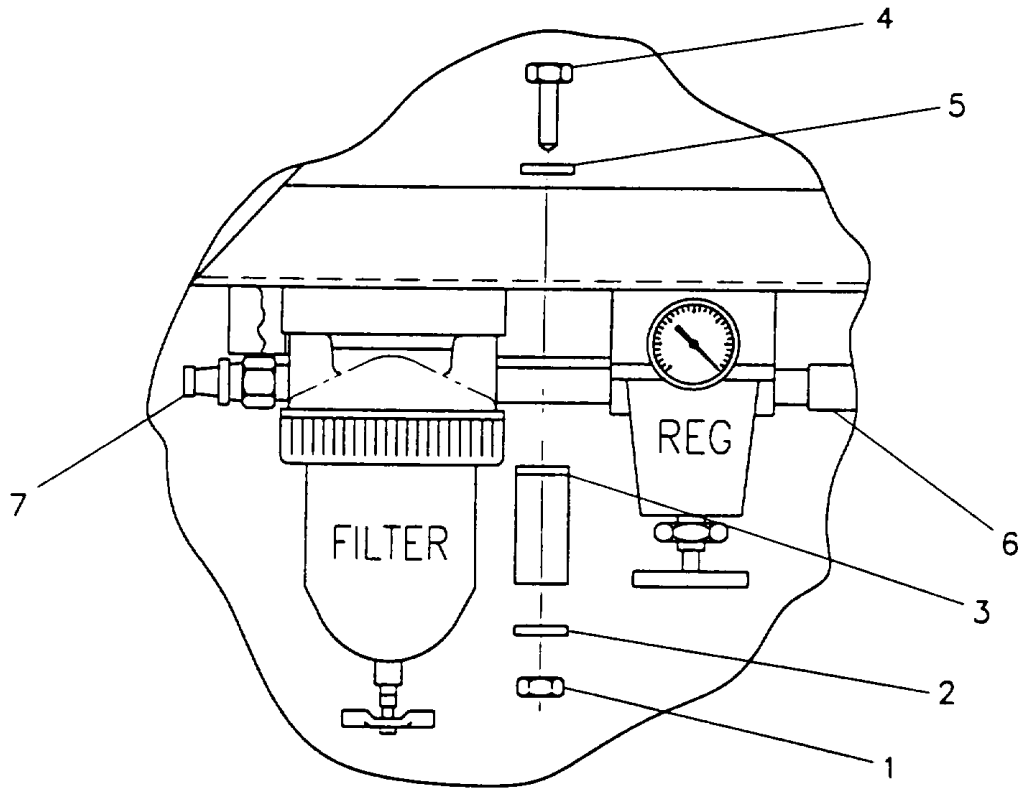

Figure 4-16. Air Filter and Regulator Replacement
**4-23 AIR FILTER / REGULATOR ,ASSEMBLY REPLACEMENT. (Refer to Figure 4-16)**